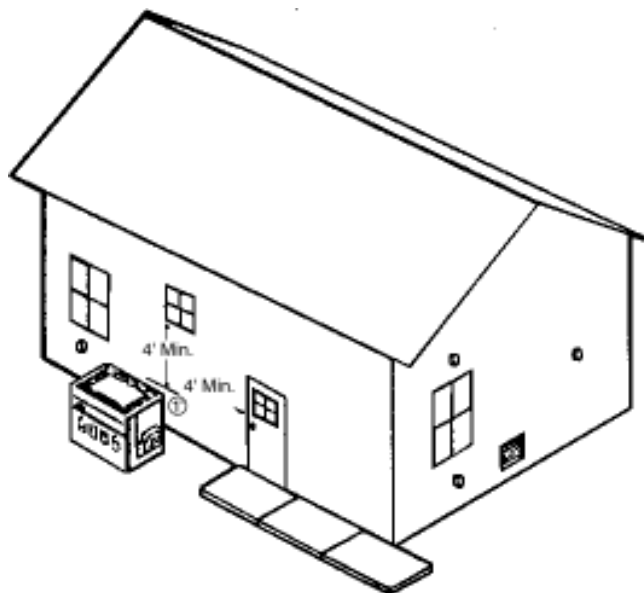

Figure 15.
Overhangs must be such that flue products are not diverted into living spaces. From the point where the flue products leave the heater, that point **MUST** be a minimum of four (4) feet below, four (4) horizontally from or one (1) foot above any door, window or gravity inlet into the building; see Figure 15.